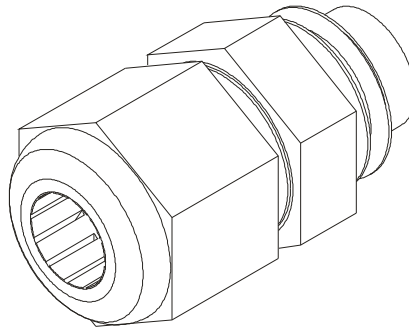

FIG. 21 CABLE GLAND
- Step 4. Loosen the cable gland nut for the load sensor cable you want to remove. (See Fig. 21)